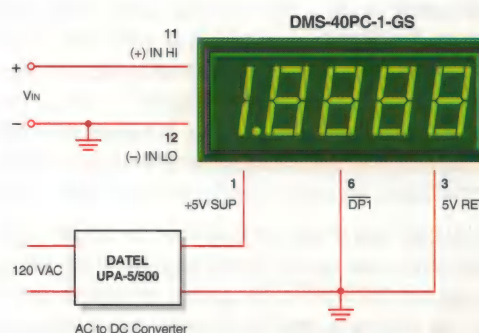

Figure 2. Single-Ended Input Configuration
**1. Single-Ended Input Configurations:** The DMS-40PC can measure single-ended signals with either positive or negative polarities. True single-ended inputs always have one of their two terminals at the same potential as the DMS-40PC's 5V RETURN (pin 3). Single-ended inputs are usually derived from power supplies that have a common ground with the meter's +5V supply. Figure 2 shows the recommended connections to be used with this type of input. Pin 12, (–) INPUT LO, is shown directly tied to ground. This connection to ground must be a separate wire or pc-board trace originating at  $V_M$ 's negative terminal. This hook-up will normally eliminate display instabilities and errors caused by ground-loop currents which can occur if (–) INPUT LO is tied to ground at, or near, pin 3.